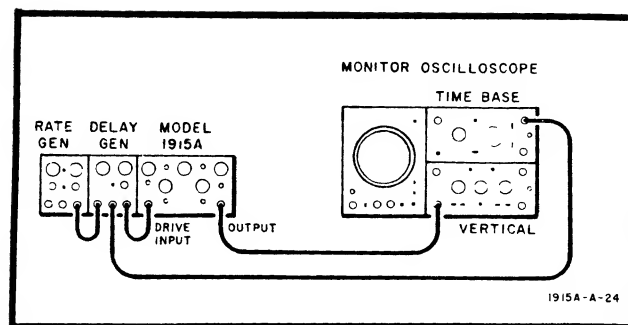

Figure 5-11. Adjustment Test Setup
- a. Connect equipment as shown in Figure 5-11.